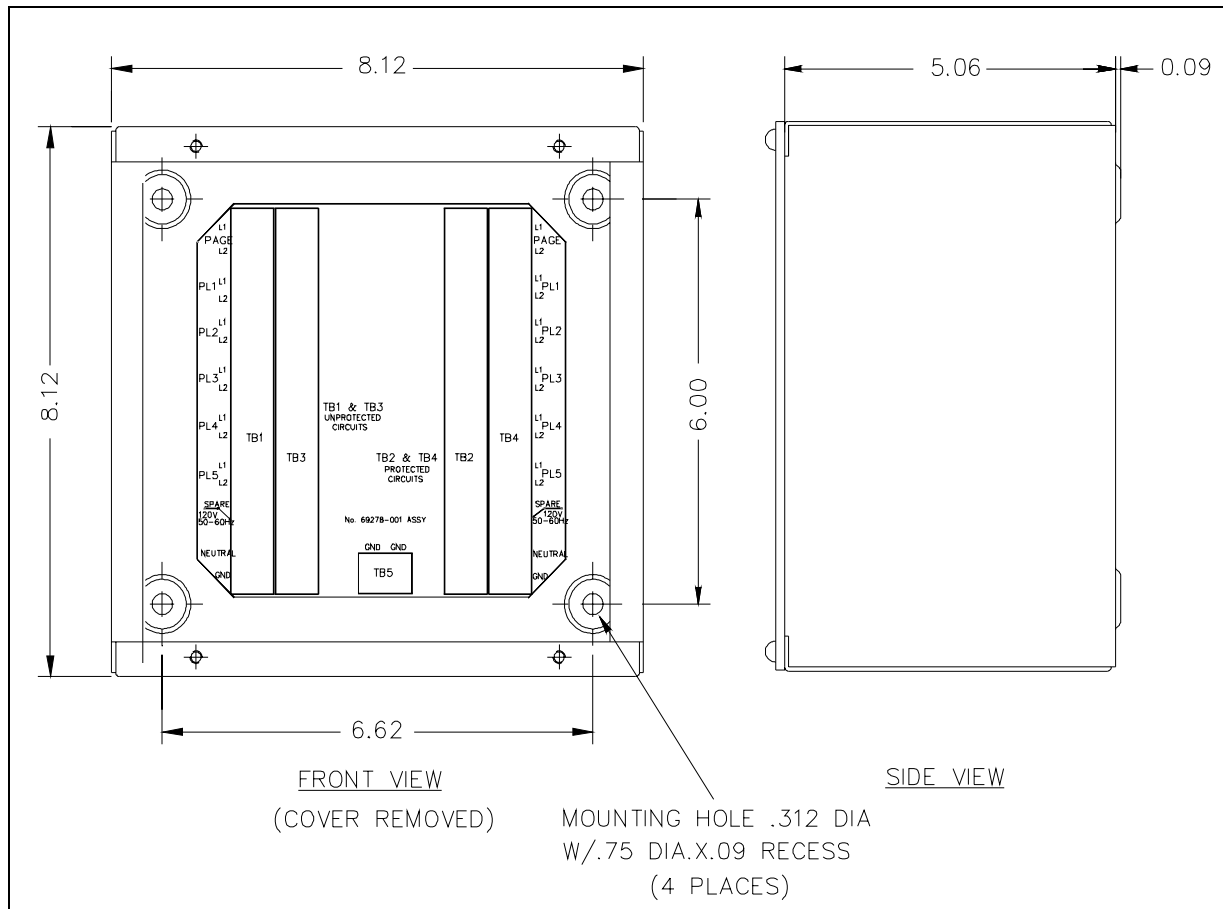

Figure 1. Enclosure Mounting Details
4. Mount the Model 10434-202 Building Entrance Protection Barrier using the four 0.312 inch diameter mounting holes in each corner of the enclosure. See Figure 1.